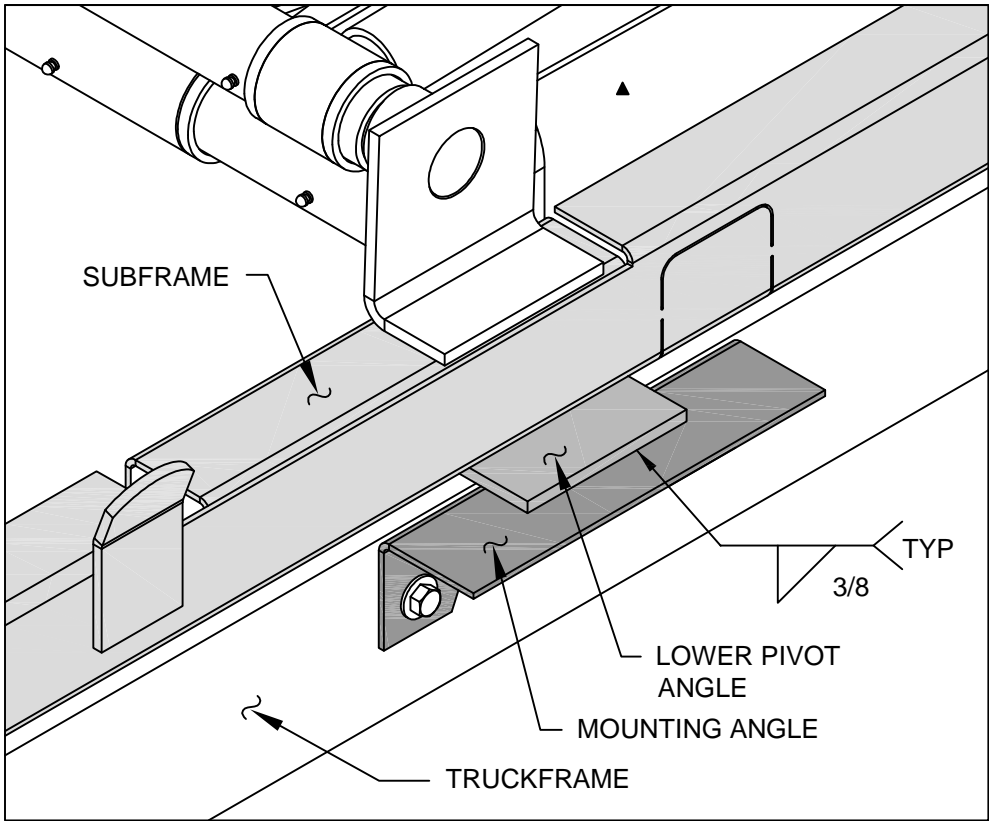

FIGURE 4b
- I. Weld each end of lower pivot angle to its mounting angle as shown on DWG. 520608, figure 4b. Note the welding symbols. Do not weld to truck frame.